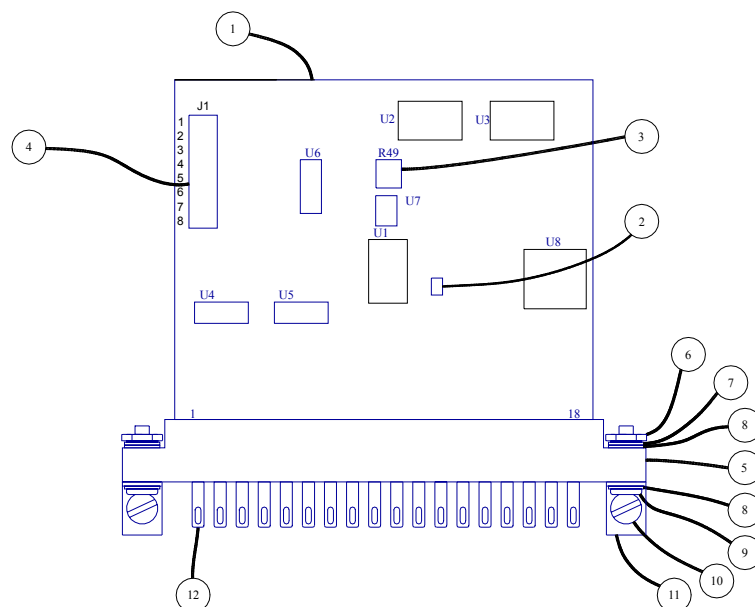
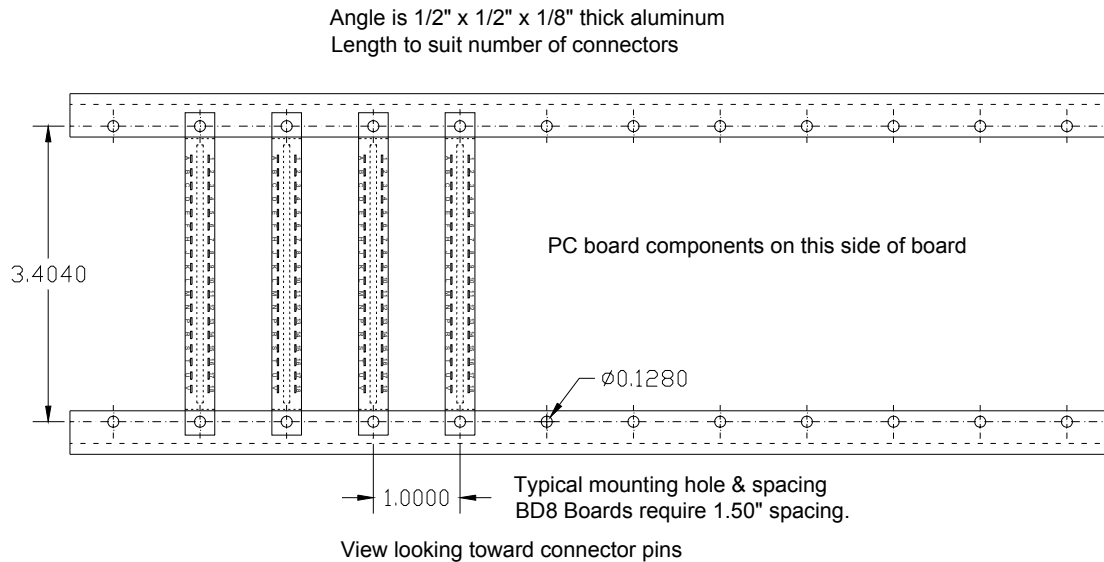

Figure 5-1 MSC Physical Installation
Figure 5-2 Group Mounting of PC Boards
Having completed the planning of your installation, it's now time to install your MSC. If you have a large number of boards, or you want them all installed in a central location, check Figure 5-2 for one possible approach. Otherwise, use the single board installation approach shown in Figure 5-1.
Figure 5-1 MSC Physical Installation below shows how your MSC and related items will look when ready for installation. For your reference, the major items are identified individually. The mode plug and its jumpers (item 4), the board activity indicators LED (item 2), and the yellow tint control (item 3), are the only board mounted parts of interest to you. The on-board voltage regulator U8 will normally get warm during operations, especially if your signals use a lot of LED's.
If you have a lot of MSC's in your layout, you may find it more convenient, when installing and wiring them, to mount them in a group so that all of the connector pins are readily visible and easy to reach. One way to do this is to prepare a pair of aluminum angles, 1/2" x 1/2" by whatever length you need to mount the group of MSC's. Figure 5-2 shows one way to mount a group of our boards. Our MSC, BD8, GCC and GCX boards all use the same connector, and can be mounted as shown. The end holes in the angles are used to mount the angles to bench legs or some other type of support frame. When mounted this way, the PC boards should be in a vertical plane to allow for better cooling. Note that, because of a heat sink, a BD8 mounted in such a group needs a 1.5" spacing on the component side of the board.
To see if all is well, plug in the wall module. The MSC board activity LED, item 2 in Figure 5-1, should blink about 2 times per second. If it doesn't, there are a couple of possible problems. First, the socket you plugged into must be on. Second, the wires to pins 18 and V may be reversed. Finally, there may be a short circuit on one of your connections to the card edge connector. Track down the problem before continuing.
An adjustment is available on the board so you can adjust the yellow tint to get the most acceptable results. This potentiometer is shown as 'R49' in Figure 5-1.